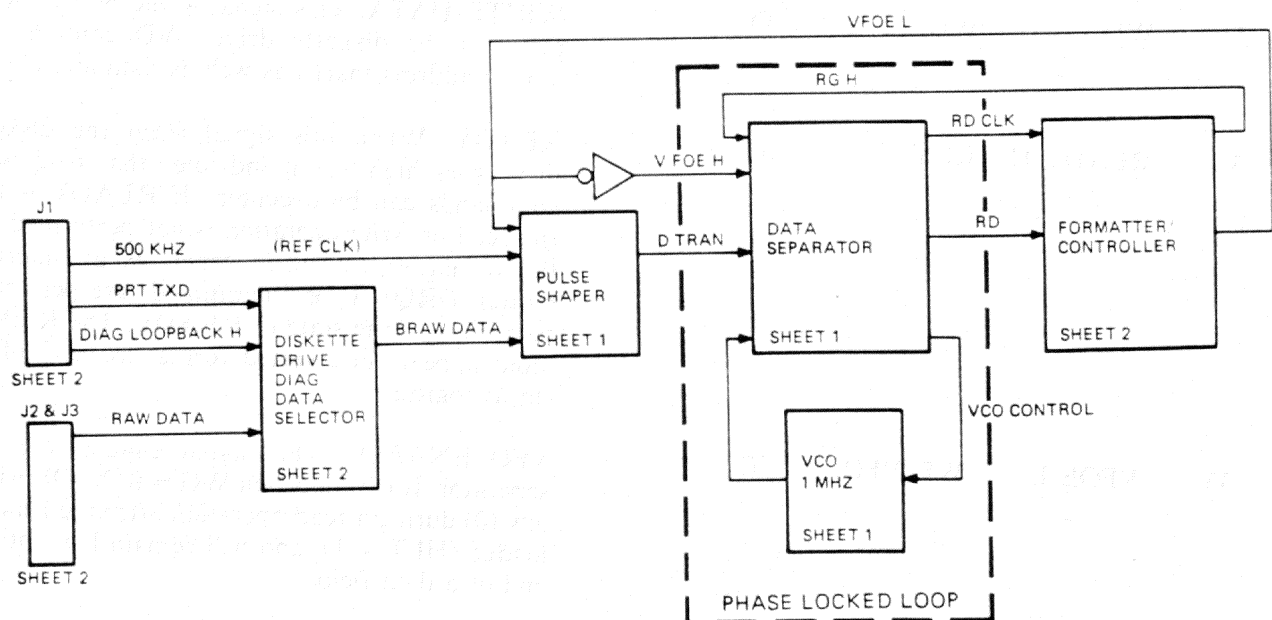

Figure 5-7 Data Separator Block Diagram
The data separator circuit receives the raw serial data input from the diskette drive and produces read data (RD) pulses whose leading edges ideally fall within a read clock (RD CLK) window. The RD CLK window occurs at a nominal frequency of 250 kHz and is used to strobe each RD pulse into the formatter/controller. Figure 5-7 shows the relation between the data separator, incoming data, and the formatter/controller.